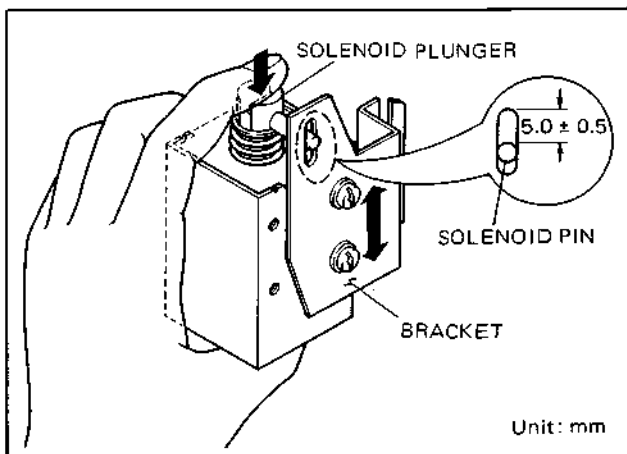

Fig. 3-37. Bracket Position Adjustment
5. Adjust so that the distance between the solenoid pin and the end of the longitudinal hole of the bracket becomes 5.0 mm ± 0.5 mm as shown in Fig. 3-37, and then fix the bracket securely.